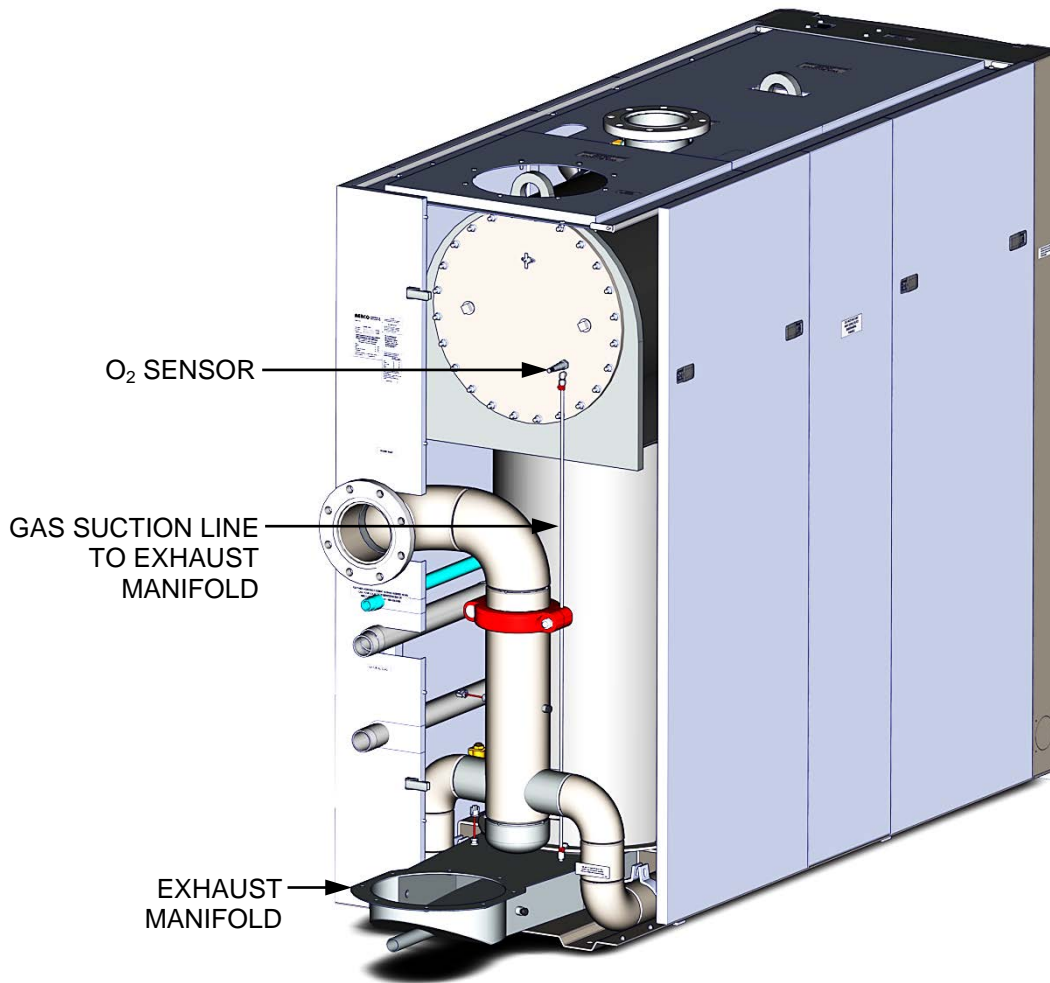

Figure 7-2: O₂ Sensor Mounting Location
The Lean Oxygen Sensor (P/N **61026**) is located on the back plate at the right side of the unit as shown in Figure 7-2. As this Figure shows, there is also a gas suction line that supplies a sampling of the exhaust gases from the exhaust manifold to ensure accurate sampling of the O₂ levels. The sensor and the suction line may be hot, therefore allow the unit to cool sufficiently before removing or replacing the O₂ sensor.
2. Remove the left-rear access panel from the unit's right side panel by removing the 4 Phillips head screws attaching it (Figure 7-2).